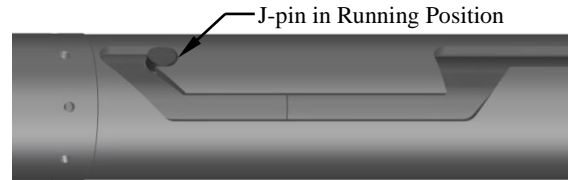

Fig. 7
L-2.17) Position J-pin in running position in J-slot of J-body (20) (Fig. 7).